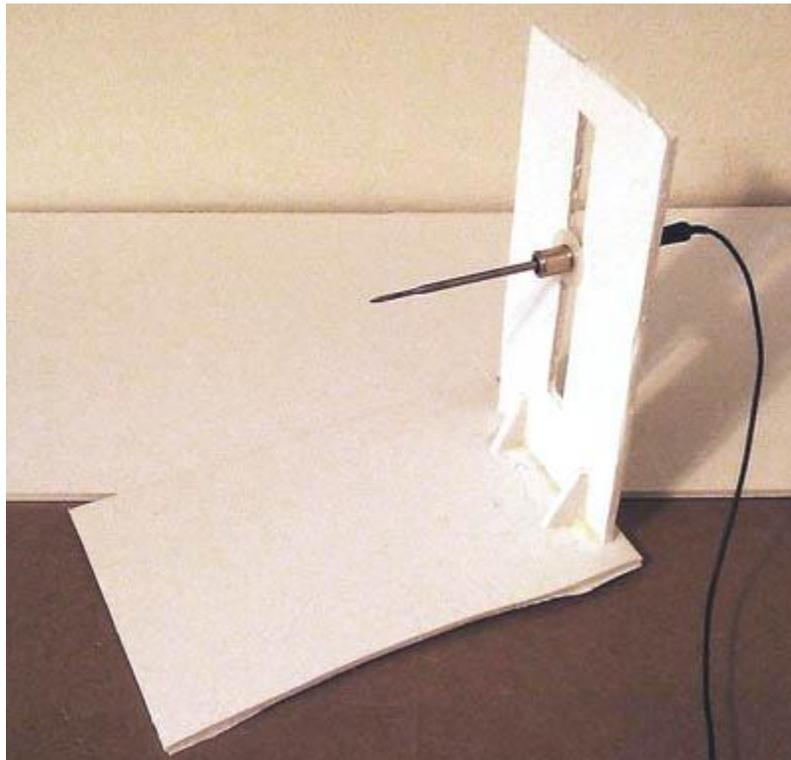

Figure 9. The completed thermometer holder and mount should look like the one in this photo.
- d. Slide the OXO thermometer probe through the thermometer holder. The sensitive area of the thermometer probe (the pointy end) winds up on the side of the slot with the triangular foamboard braces. The completed thermometer probe in its holder and mount are shown below in Figure 9.